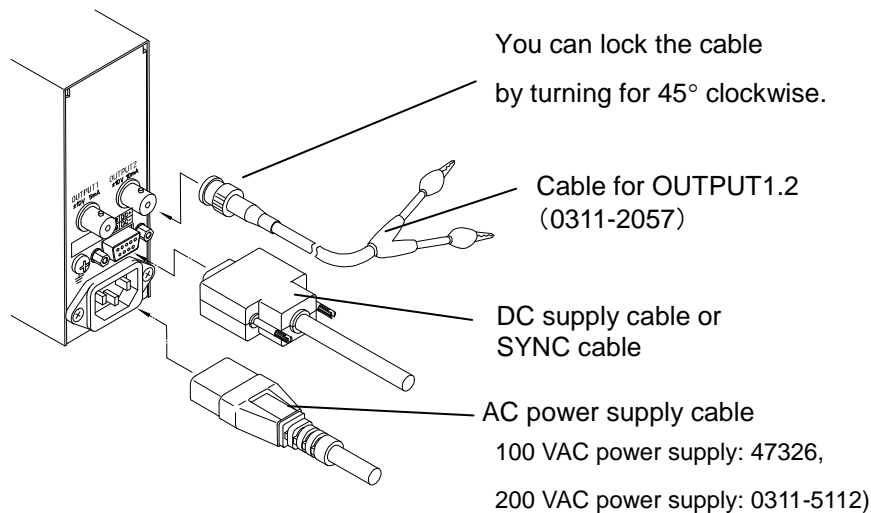

Figure 3-2 Connection of power supply code and output cable
3.1.2 Power Supply Cable and Output Cable Connections (See Figure 3-2)